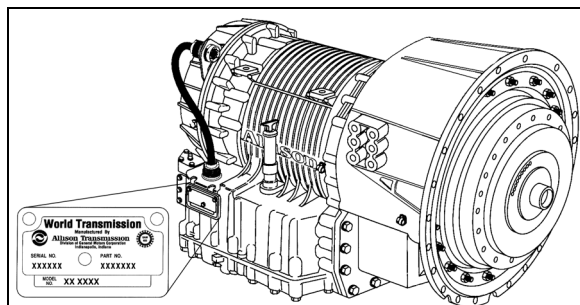

FIGURE 2: WORLD TRANSMISSION 07076
The transmission identification plate is located on the oil level dipstick side of the transmission (WT) or on transmission, on the vehicle R.H. side (ZF) (Fig. 2 & 3). The identification plate shows the transmission serial number, part number (assembly number), and model number. Use all three numbers when ordering parts.